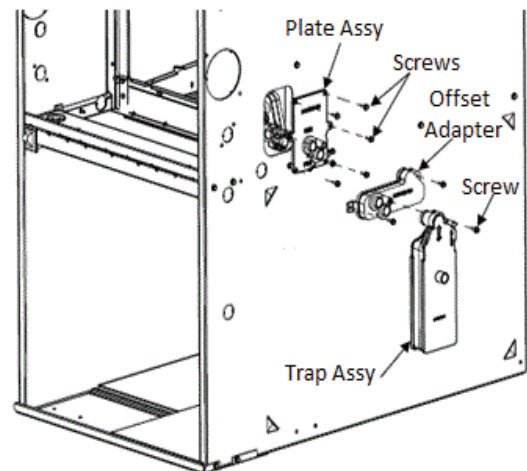

Fig. 16 – Upflow - Offset of Condensate Drain
1. Trap Offset Adapter Accessory Kit (purchased separately) is required. Instead of installing the trap to the adapter plate, screw the trap offset adapter to the adapter plate (see Fig. 16).
2. Screw the trap to the trap offset adapter (see Fig. 16).
3. Screw the trap adapter plate to the casing using the supplied sheet metal screw (see Fig. 16).